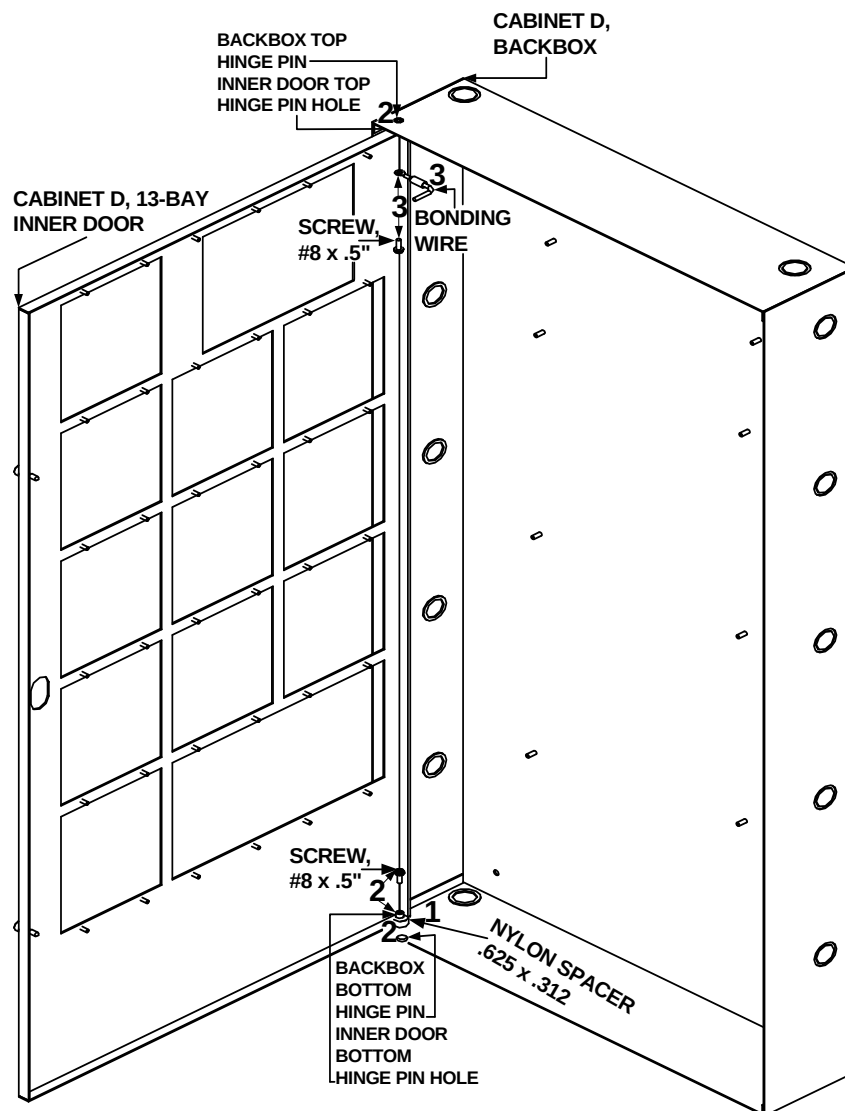

Figure 2.5.10.7.1 Cabinet D, 13-Bay Inner Door to the Backbox Installation
**NOTE:** For information on the installation of the opposite end of the bonding wire, see Section 2.5.10.8, Step 7 and Location 7 of Figure 2.5.10.8.1.